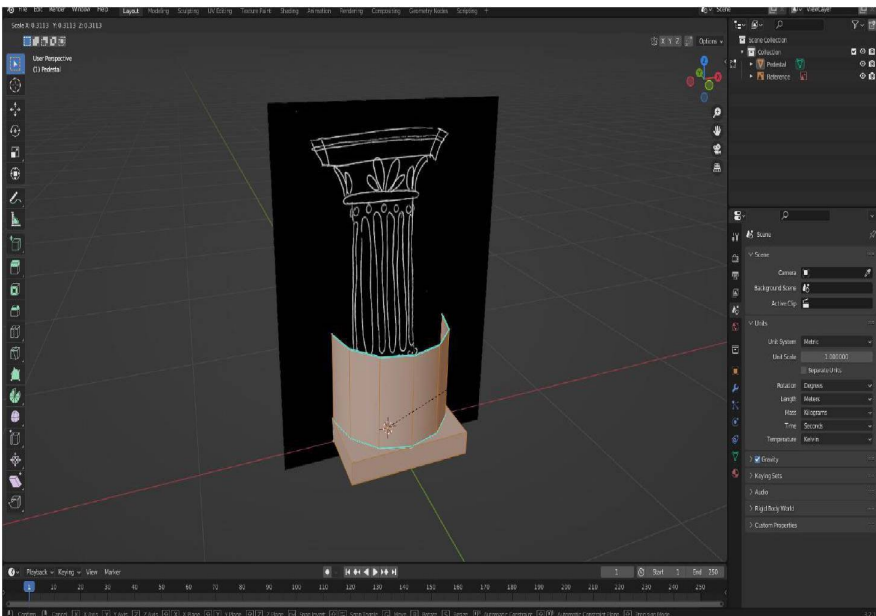

Figure 4.19: Cylinder and cube sub-object primitives scaled using 3D Cursor as transform pivot point
3. Clear any selection by clicking away and then select all by pressing **A**, then press **S** and move the mouse cursor toward the 3D cursor. This will shrink the selected geometry down. Left-click to confirm when the cube pedestal base is approximately the same width as the pedestal in the reference image as shown in *figure 4.19*. Don't worry about the cylinder during this operation. Please refer to the following figure: